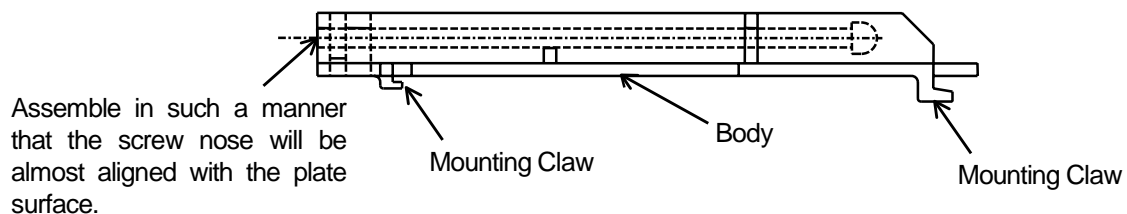

Fig.3.2 Mounting bracket
- 1) Assemble the mounting bracket refer to Fig.3.2.